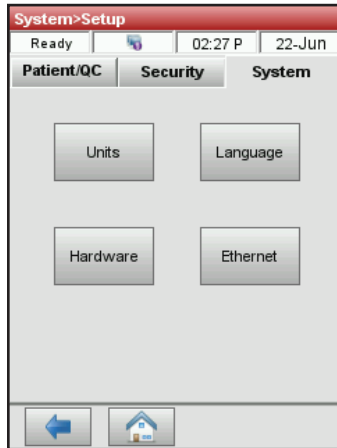

Figure 23. System Manager > Setup screen
- From the Setup screen, tap the **System** tab and then tap **Units** (figure 23).